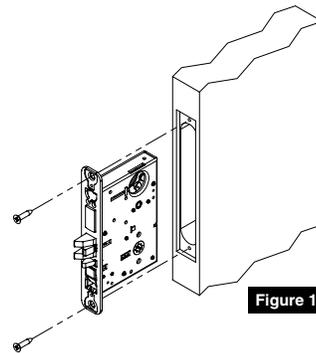

Figure 15
2. Insert mortise lock into door and hand tighten longer 1" mounting screws. (Figure 15)